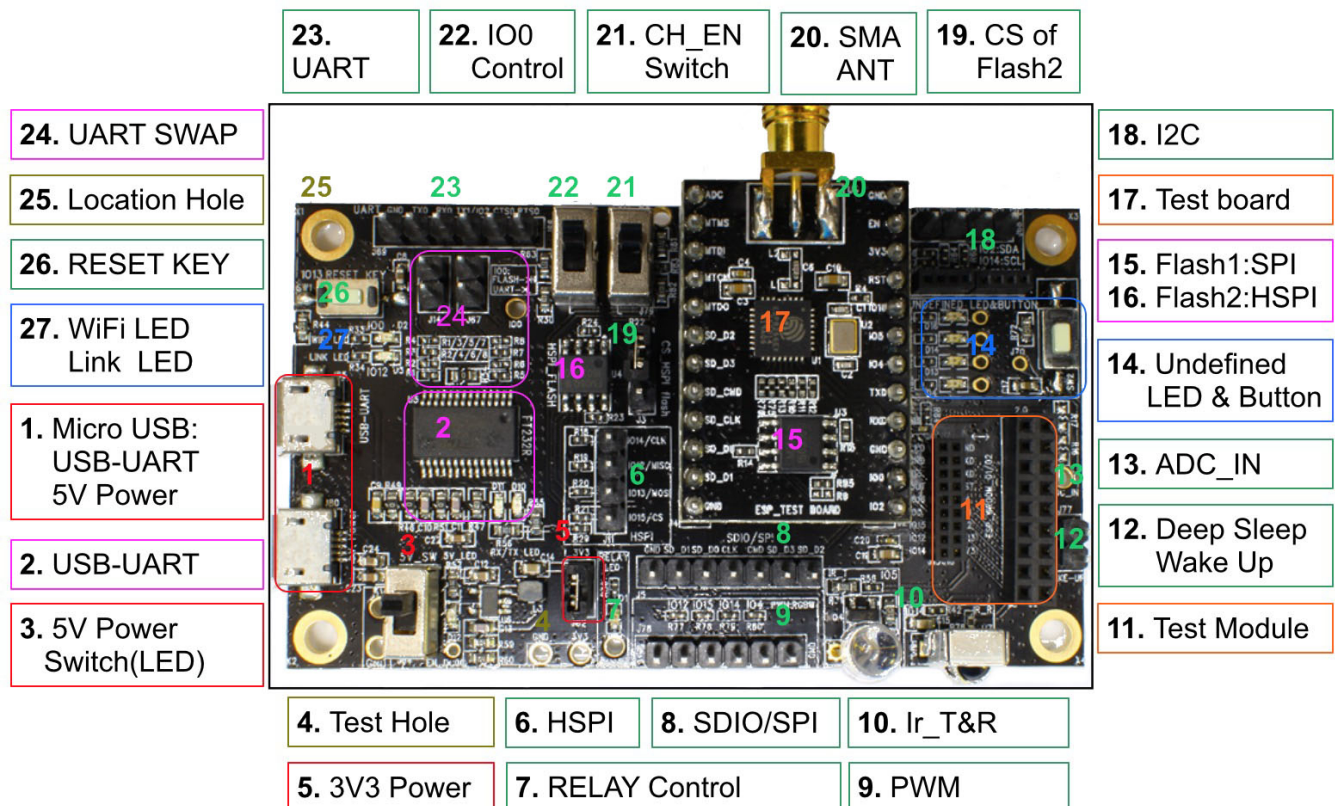

Figure 14 ESP8266EX Development Board
Espressif Systems provides ESP8266EX development board for quick evaluation and familiarisation of products and for secondary development for customers. The size of the demo board is 46mm*78.5mm. Functional components on the demo board are illustrated in the Figure 14 below.
Micro USB Interface	There are two USB interfaces, one is used for 5V power supply, the other one is used for serial communication. (Refer to Part 1 in Fig. 14) Please pay attention to the notice on Page 25.
Slide Switches	Slide switches are used to convert voltage level of GPIO0 interface and chip enable pin CH_EN. It should be noted that when a slide switch is pulled up, the voltage level is high, while when pulled down, the voltage level is low. (Refer to Part 3, 21, and 22 in Fig. 14)
Reset Buttons	SW1 is connected to MTCK (GPIO13), and is used for resetting IoT applications. Function of SW2 has not defined yet. (Refer to Part 26 and 14 in Fig. 14)
Blue light (D3) is an indicator light for the communication of the server. (Refer to Part 27 in Fig. 14)
Green light (D1) is an indicator light for relay switch control. (Refer to Part 7 in Fig. 14)
Blue light (D11) and Red light (D10) indicate working status of Rx and Tx serial ports respectively. (Refer to Part 2 in Fig. 14)
Red light (D12) is indicator light for 5V power supply. (Refer to Part 3 in Fig. 14)
Function of D4, D13, D14, and D16 can be defined by users themselves. (Refer to Part 14 in Fig. 14)
Jumpers	J82: It needs to be short-circuited using a jumper, so that 3.3V power supply can be connected to other posterior circuits. It can also be used to test the power of the circuit. (Refer to Part 5 in Fig. 14)
J3: It functions as chip selection for HSPI flash. HSPI flash is closed when the jumper is short-circuiting connected to the upper two needles, while HSPI is enabled when the jumper is short-circuiting connected to the lower two needles. (Refer to Part 19 in Fig. 14)
J14 and J67: When J14 is short-circuiting connected, it indicates that GPIO13 is connected to U0CTS; when J67 is short-circuiting connected, it indicates that GPIO15 is connected to U0RTS. (Refer to Part 24 in Fig. 14)
J77: When J77 is short-circuiting connected, it indicates that GPIO16 is connected to EXT_RSTB. This can be used to awake the device from deep-sleep mode. (Refer to Part 12 in Fig. 14)
Flash	<p>Flash1 (the one mounted on the test board): Flash1 is connected to the chipset using SPI interface. Currently, Flash1 is mainly used when the chip is working under WiFi standalone mode. R9 and R85 can be used as chip select of Flash1. By default, Flash 1 is enabled. (Refer to Part 15 in Fig. 14)</p> <p>Flash2 (the one mounted on the baseboard): Flash2 is connected to the chipset using HSPI interface. HSPI is mainly used in SIP mode, in this application, ESP8266EX chipset is used as slave device, and is connected to the host MCU using the SPI interface that is defined in standard SDIO interface. HSPI is connected to Flash2. J3 can be used as chip select of Flash2. (Refer to Part 15 in Fig. 14)</p>
Modules for Testing	<p>There are several modules that can be connected with ESP-LAUNCHER development board for testing and development, including the test board that is mounted on the baseboard, modules with 1.27mm double-row needles, and 2.00mm double-row needles (including ESP-WROOM-01 and ESP-WROOM-02).</p> <p>It should be noted that pins of the modules should be connected with corresponding pins on the baseboard. Besides, only one type of module can be used at one time. (Refer to Part 17 and 11 in Fig. 14)</p>
- Step 2** Short-circuiting connect J82 (Part 5 in Fig. 14) so as to provide 3.3V power to the WiFi part.
- Step 3** Pull up the switch (Part 21 in Fig. 14) that controls CH_PD (the chip enable pin, valid when the voltage level is high).
- Step 4** If not necessary, short-circuiting connect J3 (the chip selection pin of HSPI flash, Part 19 in Fig. 14) so as to close HSPI flash.
- Step 7** Pull up the 5V power supply switch so as the supply 5V power. Red light (D12) is an indicator light for 5V power supply. (Part 3 in Fig. 14).
- Step 9** Flash boot: pull up the switch that controls GPIO0 (Part 22 in Fig. 14).